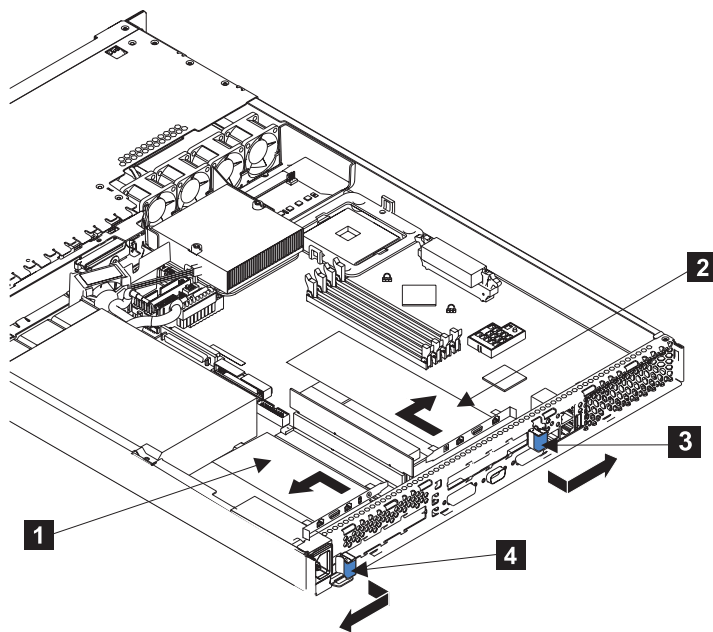

Figure 145. SAN Volume Controller 2145-4F2 before removing an adapter
5. For the adapter that you are going to remove, press the sides of the expansion-slot clip (**3** or **4** in Figure 145 on page 161) together to unlock the clip, and then pivot the expansion-slot clip away from the adapter. The expansion-slot clip remains loosely attached to the SAN Volume Controller 2145-4F2.